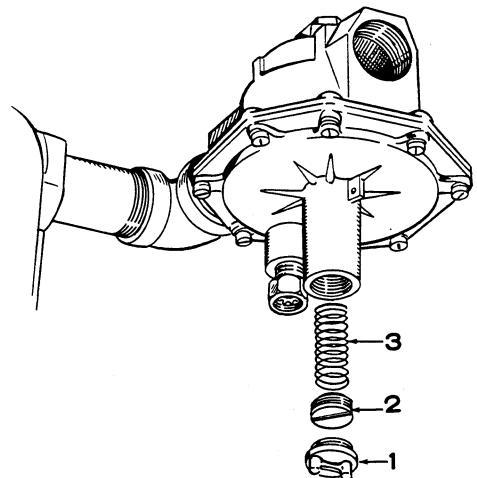

FIGURE 12. SPRING REMOVAL FOR LPG
Terminal Board (TB) 21: Connection of wandering lead (W12) to terminals H3, H4, H5 and H6 is made at this point, to change voltage regulator tap when reconnecting generator for different voltages. Refer to Figure 12.
Models shipped after June 15, 1967 had the Thermac pressure reduction valve inverted as shown in Figure 12. When changing from natural gas to LPG vapor withdrawal, remove the spring (Figure 12, Item 3) and replace Items 1 and 2. This valve now becomes a zero pressure valve.